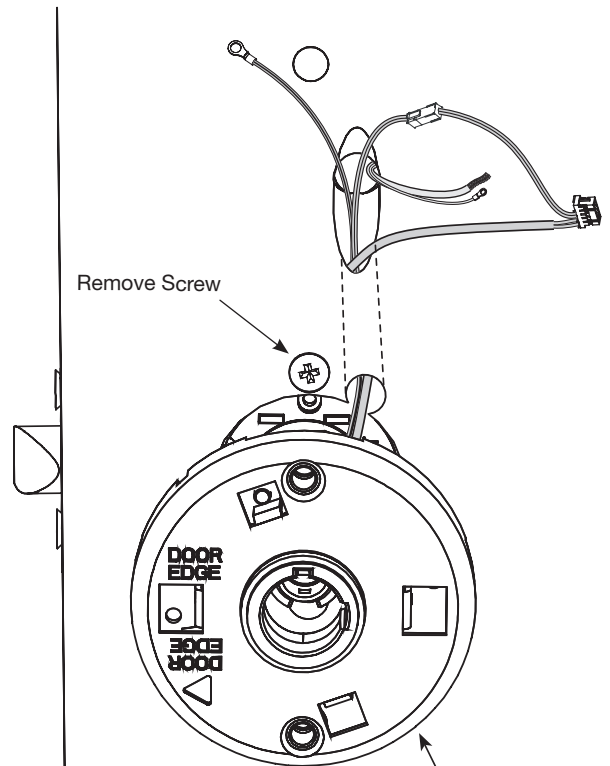

Fig. 7a
- a. Feed harness wires and ground wire up through raceway (Fig. 7a).